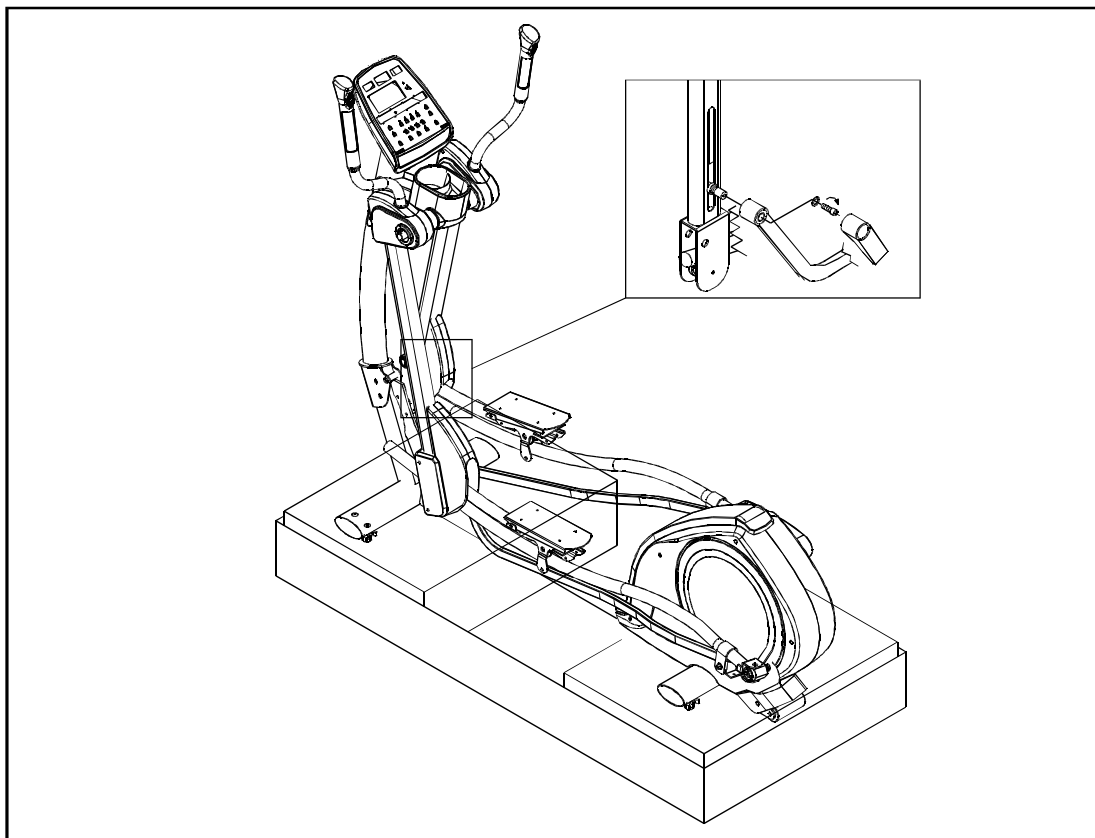

Fig.3
**STEP 6.** Put the Stride Linkage in place and use the bolt and washer to secure it onto the Stride Support Assembly. Then press the stride linkage cover into place. See Fig.3 for reference. Complete steps 4, 5, and 6 on the other side of the unit too. (See Fig 3)